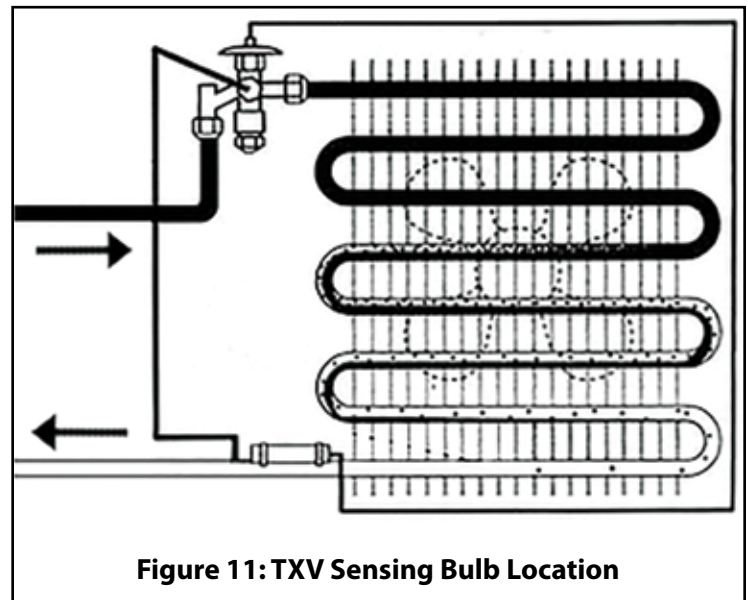

Figure 11: TXV Sensing Bulb Location
1. Install the TXV bulb on the suction line just outside the air handler cabinet using the two bulb clamps furnished with kit as shown in Figure 11.